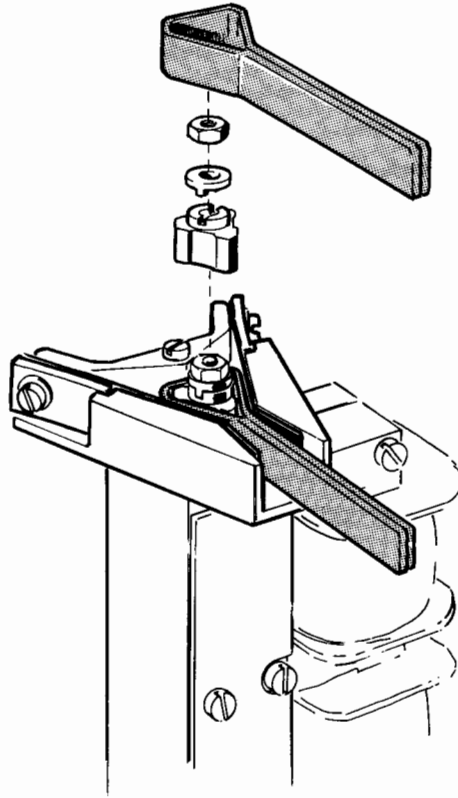

Fig. 6.13
- Fig 6.13 6. Check that feeding accuracy between adjacent rows is better than 3%.